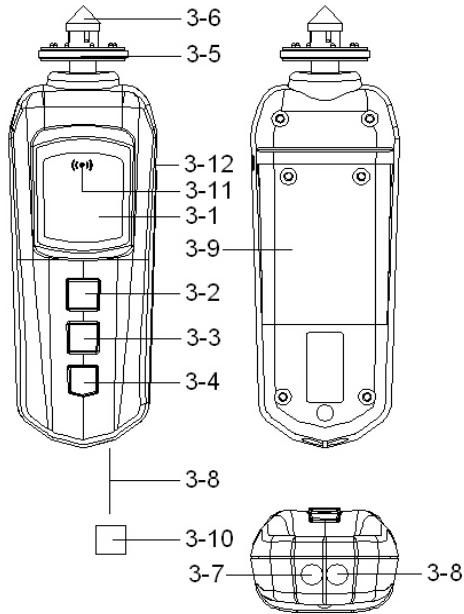

Fig. 1
- 1) Press the " Power Button " (3-2, Fig. 1) continuously and not release the finger from the button.
- 2) Press " Function Button " (3-3, Fig. 1) momentarily in sequence, the function will change to
- e. Photo RPM measurement, display shows " RPM " symbol, at the same the " Laser Light Beam " (3-8, Fig. 1) will be generated.*
- 2) Apply a " Reflecting Mark " (3-10, Fig. 1) to the object being measured. Press the " Power Button " (3-2, Fig. 1) continuously and align the " Laser Light Beam " (3-8, Fig. 1) with the applied target. Verify that the " Monitor Indicator " (3-11, Fig. 1) lights when the target pass through the light beam.
- 2) Press the " Power Button " (3-2, Fig. 1) & lightly pressing the " RPM Adapter " (3-6, Fig. 1) against the center hole on the hole of the measured rotating axis. Release the " Measuring Button " when the reading stabilizes (approx. 2 sec.).
- 2) Press the " Power Button " (3-2, Fig. 1) and simply attaching the " Surface Speed Wheel " (3-5, Fig. 1) to the detector. Release the " Power Button " when the reading stabilizes (approx. 2 sec.).
- a. First push the " Memory Button " (3-4, Fig. 1) - To display the last value (" LA " and " the last value " will be displayed alternately).
- * To change the batteries, open the " Battery Cover " (3-9, Fig. 1).
- * Make sure the " Battery cover " (3-9, Fig 1) is secured after changing the batteries.
The instrument has RS232 PC serial interface via a 3.5 mm terminal (3-12, Fig. 1).